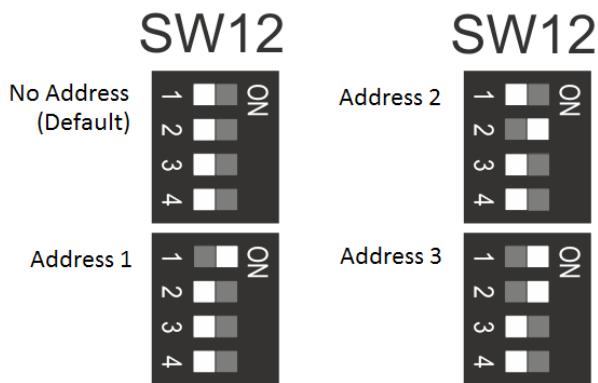

Figure 16. Interlink wiring diagram
- Fit the PCB shelf and cables by following the reverse instructions in Figure 16 and Figure 17 on page 9.